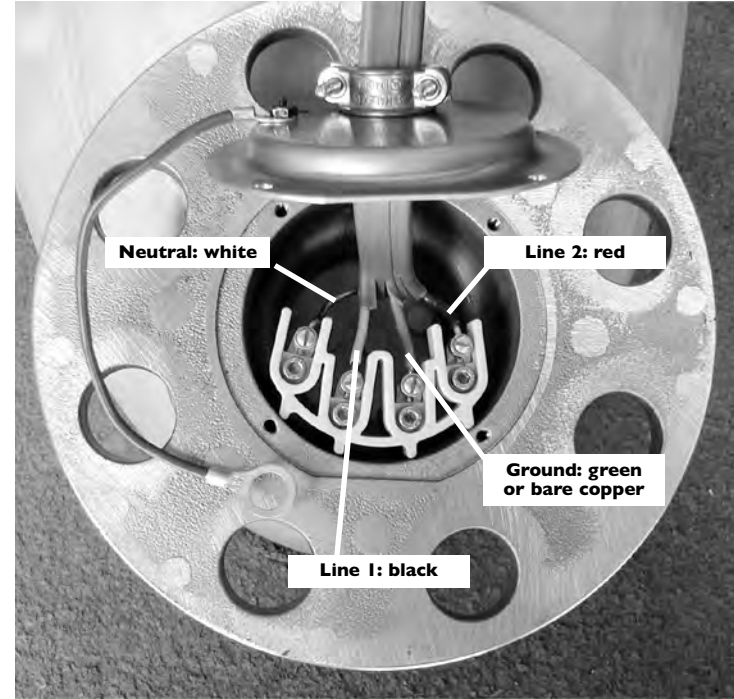

Fig. 4 Wire run to the yaw connection
- Pass cable through strain relief cover so approximately 1 inch (2.5 cm) of cable sheath protrudes through as shown in Fig. 4 at right. Tighten strain relief clamp to secure cable.